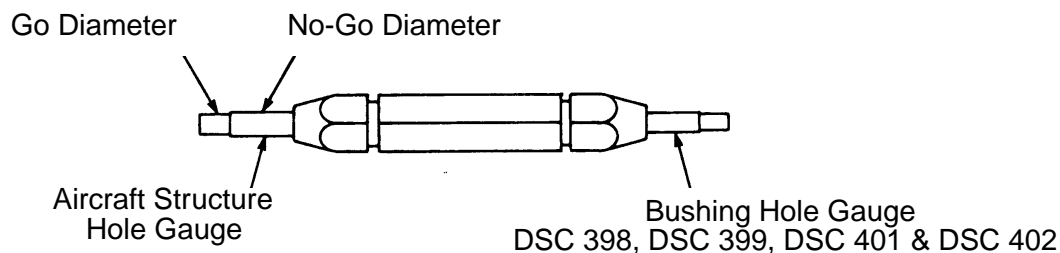
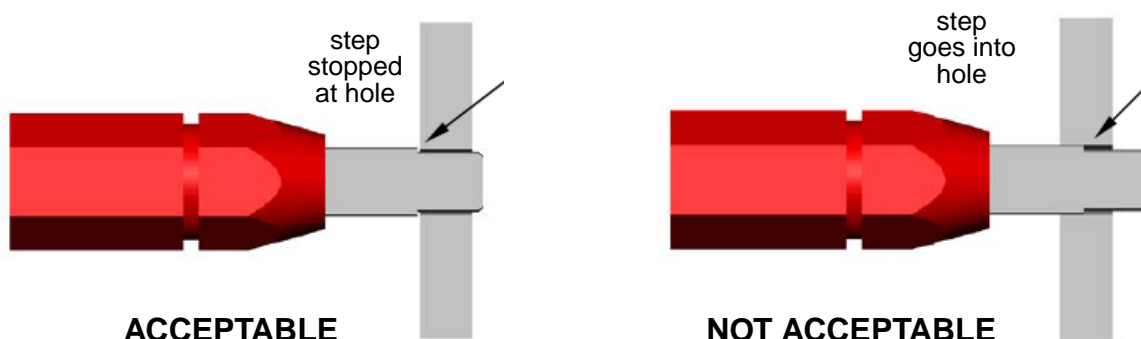

Figure 1 - Combination GO/NO-GO Gauge
Figure 2 - Using the GO/NO-GO Gauge
- 5.1.4 The combination GO/NO-GO gauge (see Figure 1) is a dual purpose gauge used to check the starter hole diameter in the aircraft structure for standard size bushings as well as the final hole diameter in the bushing. The end with the larger diameter is used for testing the starter hole diameter in the aircraft structure whereas the end with the smaller diameter is used for testing the final bore diameter of the bushing. The GO portion of the gauge must fit into the hole and the NO-GO portion of the gauge must not fit into the hole (see Figure 2).